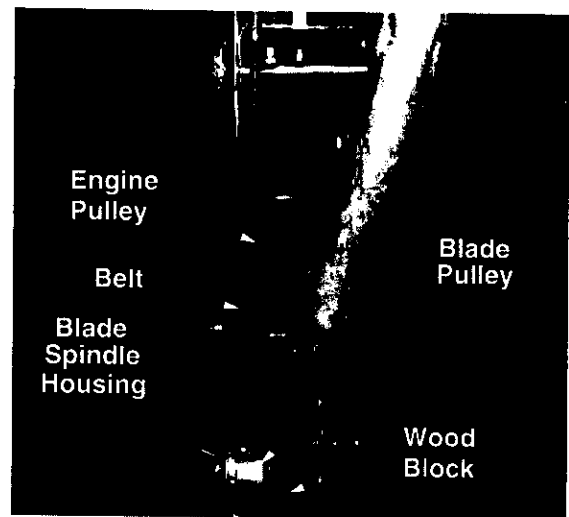

Figure 23
4. Place a block of wood on the floor and tip the unit forward resting the blade spindle housing on the block of wood. Apply force down to compress the spring on the blade shaft. Remove the belt from the engine pulley, then lift belt off blade pulley. See Figure 23.
NOTE: Do not tip the unit forward unless gas and oil have been drained. Figure 23 is shown without support brace for clarity.
5. Reinstall the replacement belt in the reverse order of disassembly. Refer to Figure 23 for positioning of belt.